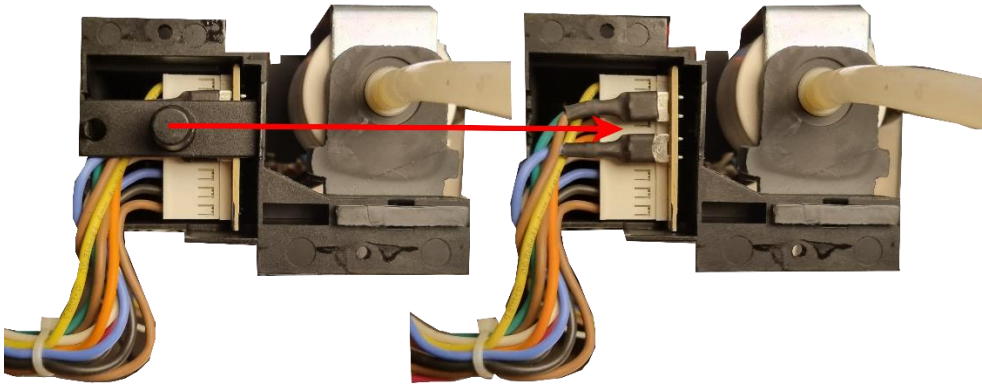

Fig. 3.3
- Remove the plastic stopper, remove the electronic board. (fig. 3.3)